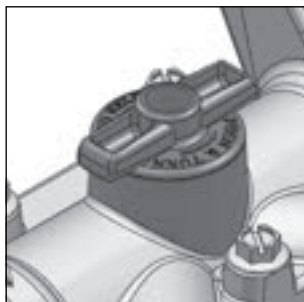

Figure 1.3
- Insert the plug and then rotate ¼ turn clockwise as shown in **figure 1.3**.